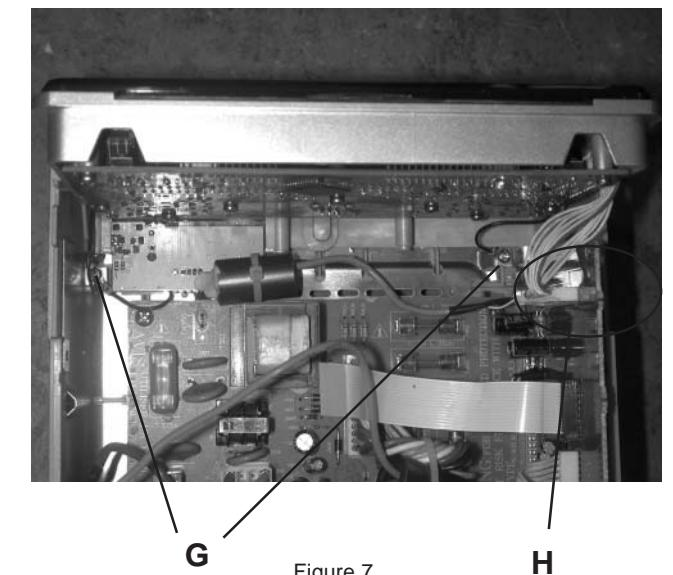

Figure 7
- 3) Loosen 2 screws " G" as shown in Figure 7.
- 4) Unplug the 2 cables " H" connect Key board and the Amplify Board as shown in Figure 7.